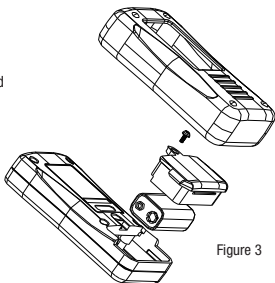

Figure 3
5. Replace the battery as shown in Figure 3. Ensure that the battery polarity is correct.